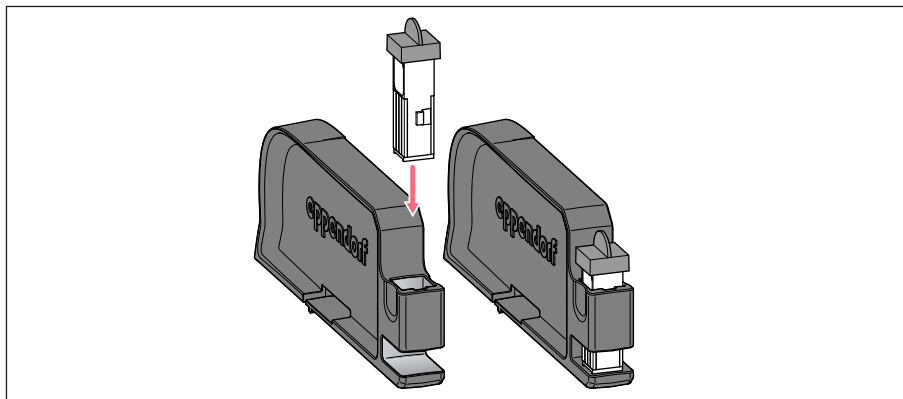

Fig. 5-3: Insert the electroporation cuvette
6. Insert the electroporation cuvette into the cuvette holder with the plastic nose pointing towards the back.(Fig. 5-3 on p. 16)